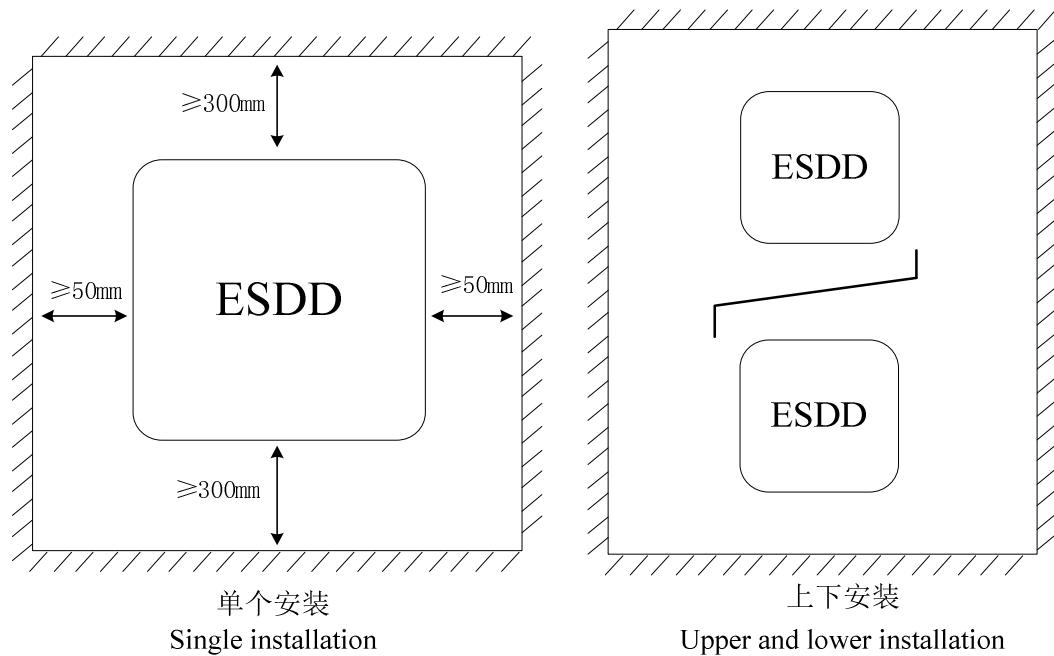

图 3.1 安装间隔 Fig. 3.1 Installation Spacing
装。在需要上下安装的场合,请参考图 3.1 的示意,安装隔热导流板。Please vertically install the servo driver to facilitate upward emission of heat quantity, but never upside down. If there are quite many servo drivers inside cabinet, they had better be installed side by side. For any place which needs upper and lower installation, please refer to Fig. 3.1 to install the heat insulation guide plate.
2、安装空间遵照图 3.1 所示,保证伺服驱动器的散热空间。但布置时请考虑柜内其它器件的散热情况。
The installation space shall comply with those shown in Fig. 3.1 to ensure the heat elimination space of the servo driver, but please consider heat elimination of other parts inside cabinet during arrangement.